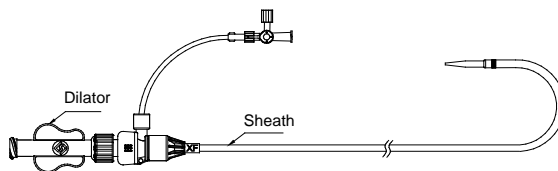

Figure 8. A sheath inserted with a dilator
- 4.5 Flush all components with saline solution, and then tighten the clamp nut after the dilator is inserted into the sheath to ensure the dilator connected with sheath securely (Figure 8).